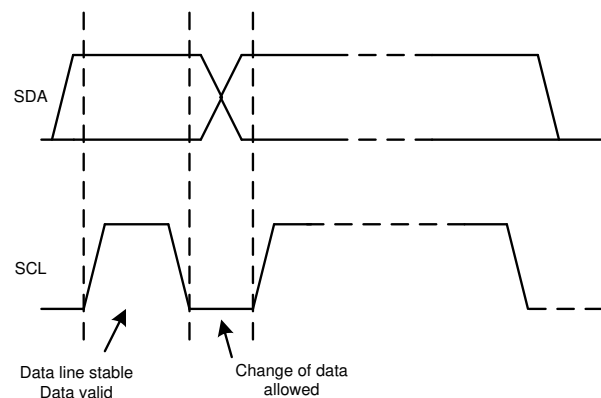

图 8-5. Bit Transfer on the I2C Bus
2. The master then generates the SCL pulses, and transmits the 7-bit address and the read/write direction bit ( $R/\overline{W}$ ) on the SDA line. During all transmissions, the master makes sure that data are valid. A valid data condition requires the SDA line to be stable during the entire high period of the clock pulse, as shown in 图 8-5. All devices recognize the address sent by the master and compare the address to the respective internal fixed address. Only the slave device with a matching address generates an acknowledge by pulling the SDA line low during the entire high period of the 9th SCL cycle, as shown in Figure 8-3. When the master detects this acknowledge, the communication link with a slave has been established.